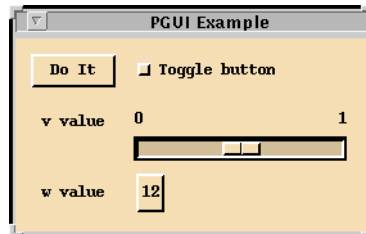
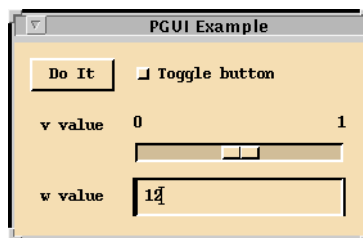

FIGURE A-2 Programmable GUI Examples
FIGURE A-3 PGUI Example Dialog After Pressing the **12** Button
Tools that use the GUI will create windows that contain, control elements such as pushbuttons, sliders, pulldown menus, plots and lists. For example, Figure A-2 shows the Programmable GUI (PGUI) Example “Do It” dialog.
- A **button** (square shaped) is either on or off. Its indicator is filled in when it is on. It can be toggled by pointing and clicking the left mouse button. The button shown in Figure A-2 on page A-2 is off. Activating a pushbutton causes some action to be performed.
- The pushbutton labeled **12** shown in Figure A-2 on page A-2 is a variable edit box (displaying the value of the variable *w*). If you press this button, it is replaced by the “*w* value” text entry area as shown in Figure A-3. After entering a value from the keyboard, the text entry area is replaced by the button (for example, the **12** button).
- GUI windows might contain *sliders*, which resemble linear potentiometers and whose values are changed by a linear motion of the handle. The position of the slider's handle represents its value. Usually the limits of the slider are shown at its ends. Figure A-3 on page A-4 shows a slider with minimum value 0 and maximum value 10. Its value is about 6. The value of a slider can be changed in several ways: